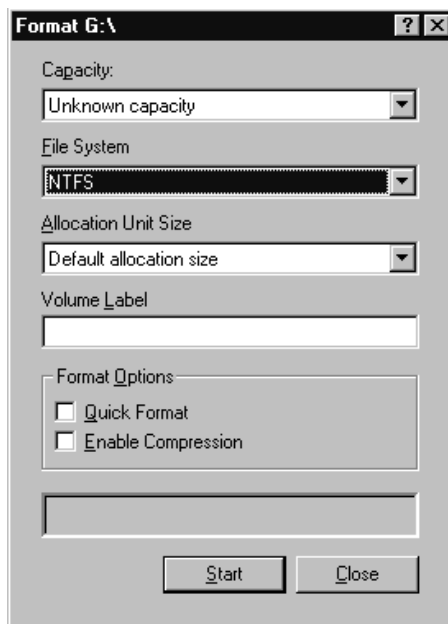

Figure 3.6 Confirming Disk Configuration Update
5. When the disk update confirmation message appears (see Figure 3.6), select **OK**. On the Disk Administrator main panel, verify that the newly created partition changes from **Unformatted** to **Unknown**.